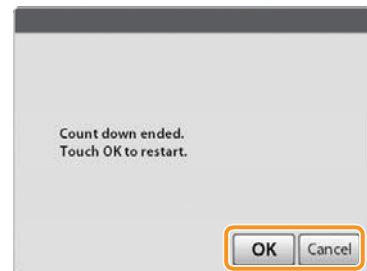

Figure 3-47
6. When the screen to confirm timer end is displayed, tap [OK] or [Cancel]. (Figure 3-47)